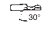

Fig. 47
- 6) File enough to remove any damage to cutting edges (side plate (62) and top plate (63)) of cutter. (Fig. 47)